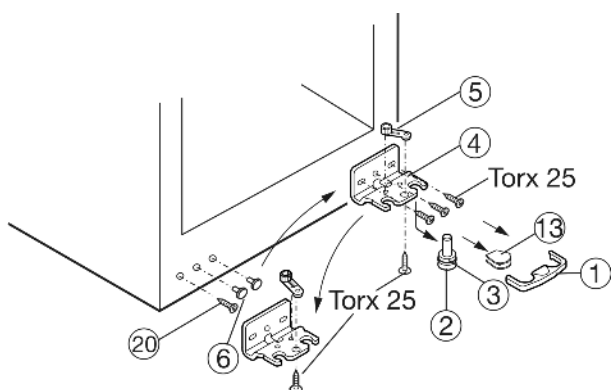

Fig. 4
- ▶ Draw safety lock Fig. 4 (1) forwards for removal.
- ▶ Remove the cover Fig. 4 (13).\*
- ▶ Pull out the bearing pin Fig. 4 (2) downwards and forwards. In so doing, pay attention to the hinge bush Fig. 4 (3).
- ▶ Unscrew the turn hinge Fig. 4 (4).
- ▶ Unscrew the bearing part Fig. 4 (5), transfer it to the opposite hole in the turn hinge and screw it down again.
- ▶ Carefully lift out the plugs Fig. 4 (6) and insert them into the opposite side.
- ▶ Unscrew the screw Fig. 4 (20) and insert it into the opposite side.
- ▶ Screw the bearing bracket Fig. 4 (4) onto the new hinge side **tightly (4 Nm)** or retighten with the aid of a cordless screwdriver if necessary.
- ▶ Slightly tip the appliance backwards again and reinsert the bearing pin Fig. 4 (2) together with the hinge bush Fig. 4 (3). The notch on the bearing pin must face forward.
- ▶ Place the cover Fig. 4 (13) on the opposite side.\*
- ▶ The safety lock (1) has to engage with the turn hinge at the side so that the bearing pin and therefore the door are secured.
- ▶ Snap the safety lock (1) onto the turn hinge again.
- ▶ If necessary, align the door to the appliance housing by way of the two oblong holes in the turn hinge Fig. 4 (4). To do so, unscrew the middle screw.